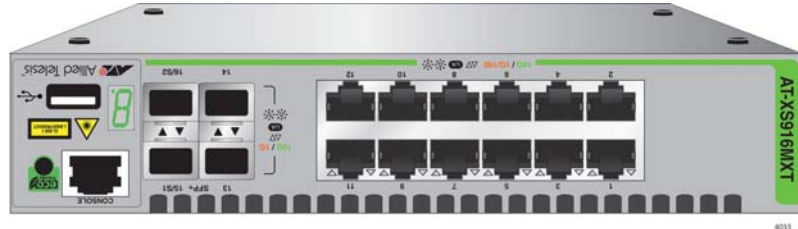

Figure 33. Turning the Switch Upside Down
4. Place the switch upside-down on a table. Refer to Figure 33.